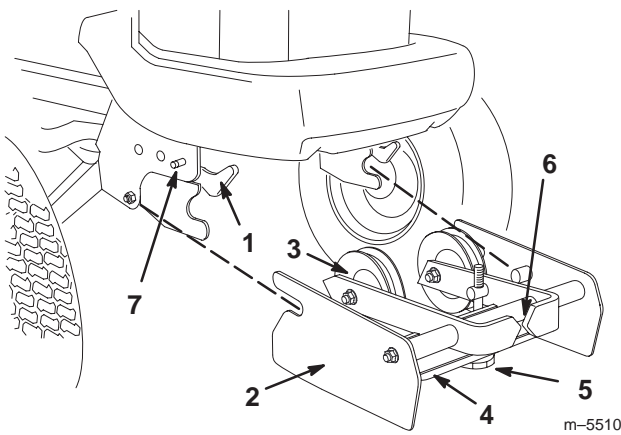

Figure 7
4. Attach the pulley box if it is not already on the tractor (Fig. 7).